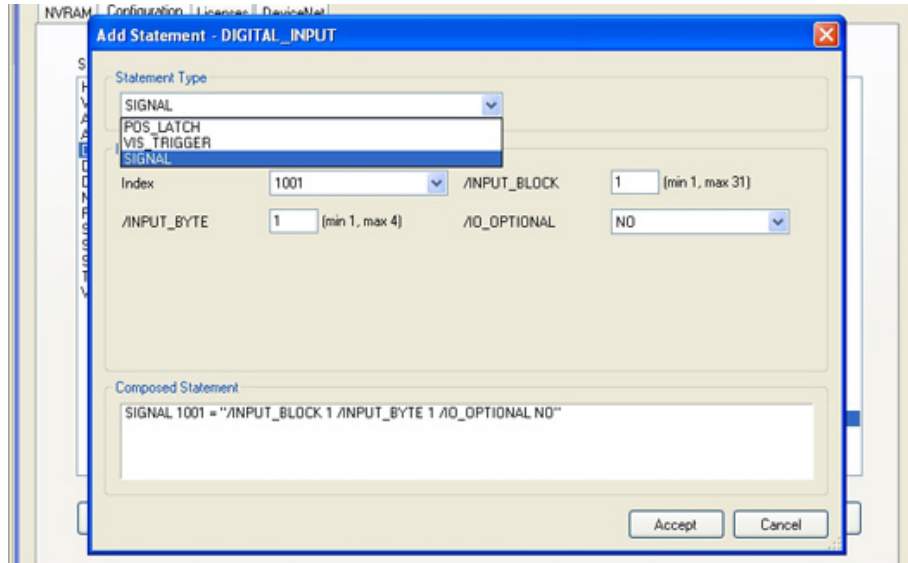

Figure A-6. Modifying a Digital Signal
5. Enter the values for the signal. See Figure A-6.